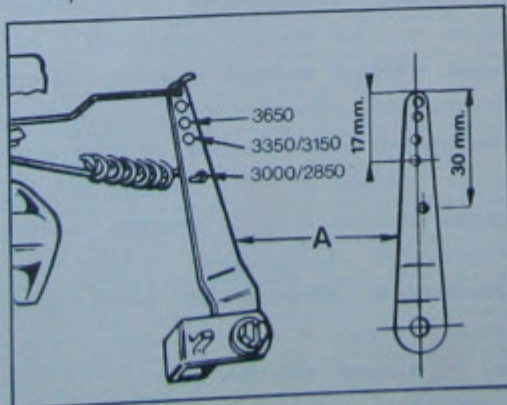

Fig. 20 Governor lever
- Hook spring «W» in the hole of lever «A» which corresponds to the required high speed. On early production engines there may not be the required No. of holes. In this case the lever «A» can be easily drilled (see Fig. 20). Final adjustment may then be made by screw «M» (Fig. 18).